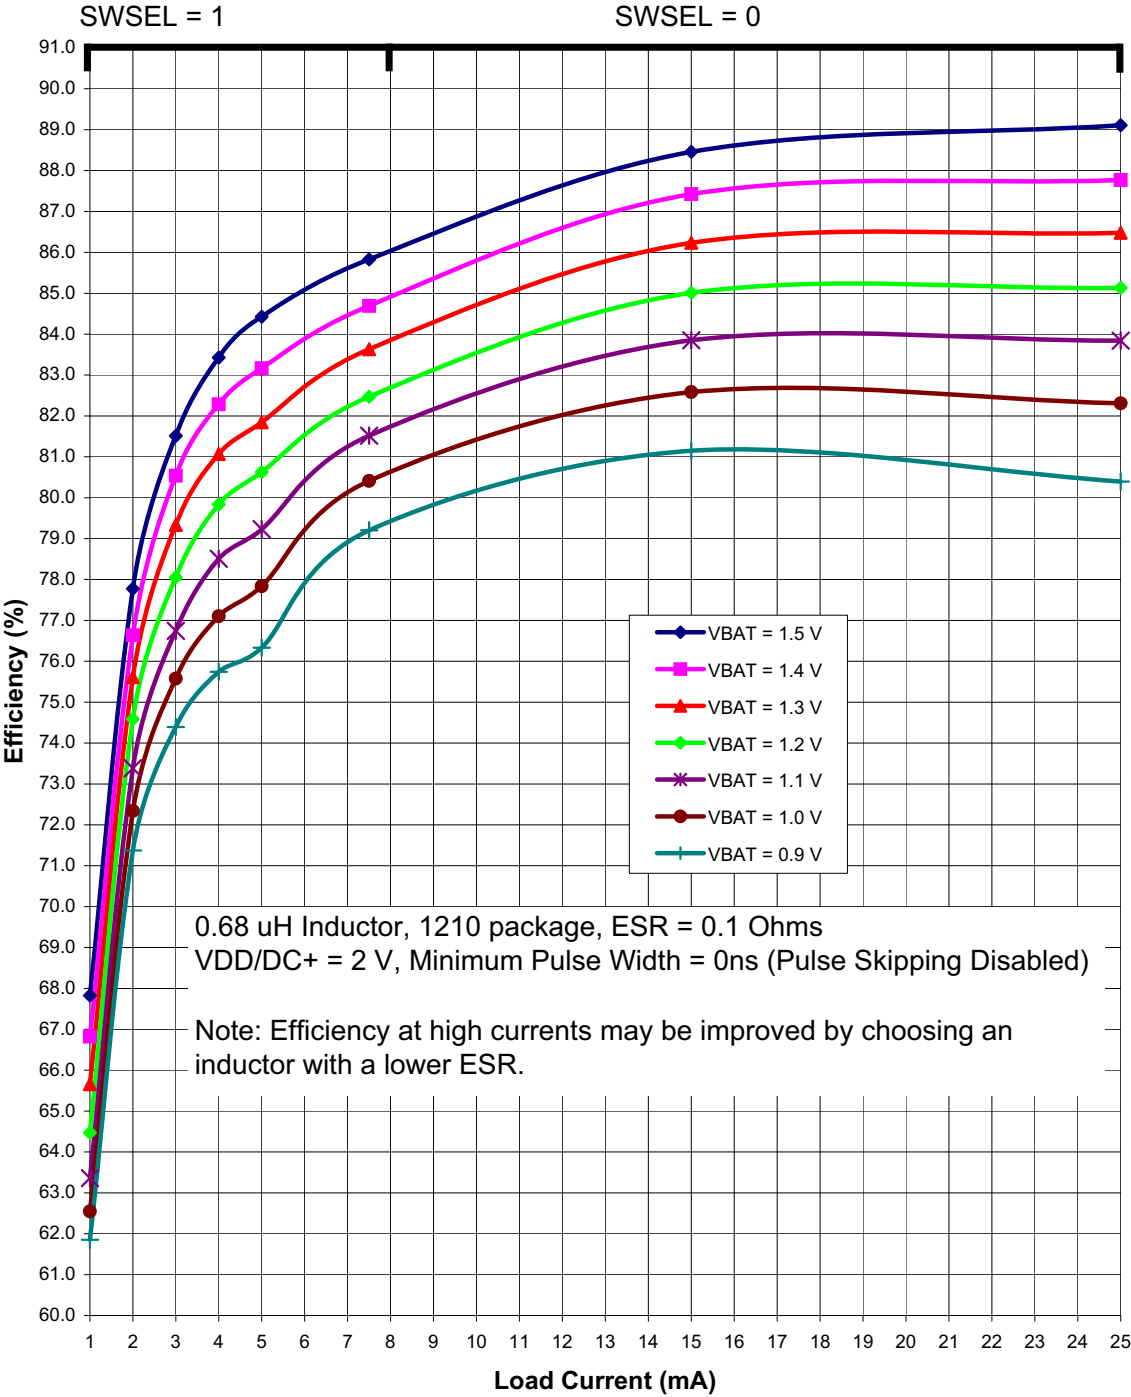
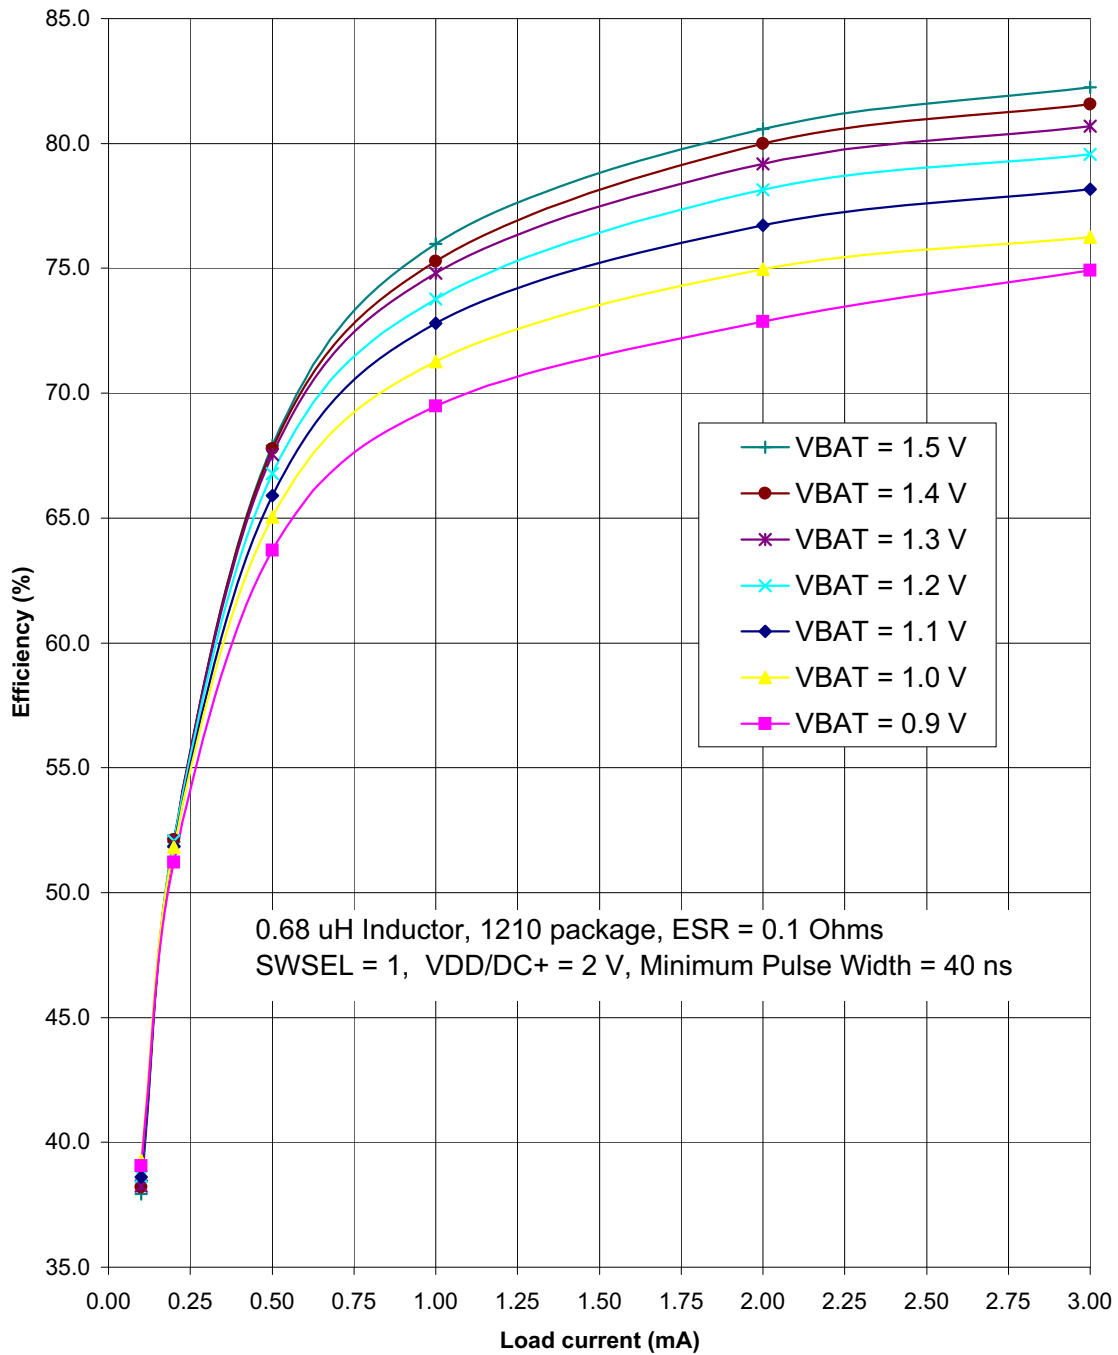

Figure 4.3. Typical DC-DC Converter Efficiency (High Current, VDD/DC+ = 2 V
Figure 4.5. Typical DC-DC Converter Efficiency (Low Current, VDD/DC+ = 2 V)
<p>Notes:</p> <ol style="list-style-type: none"> Based on device characterization data; Not production tested. SYSCLK must be at least 32 kHz to enable debugging. Digital Supply Current depends upon the particular code being executed. The values in this table are obtained with the CPU executing an "sjmp \$" loop, which is the compiled form of a while(1) loop in C. One iteration requires 3 CPU clock cycles, and the flash memory is read on each cycle. The supply current will vary slightly based on the physical location of the sjmp instruction and the number of flash address lines that toggle as a result. In the worst case, current can increase by up to 30% if the sjmp loop straddles a 128-byte flash address boundary (e.g., 0x007F to 0x0080). Real-world code with larger loops and longer linear sequences will have few transitions across the 128-byte address boundaries. Includes oscillator and regulator supply current. IDD can be estimated for frequencies ≤ 10 MHz by simply multiplying the frequency of interest by the frequency sensitivity number for that range, then adding an offset of 90 μA. When using these numbers to estimate I_{DD} for >10 MHz, the estimate should be the current at 25 MHz minus the difference in current indicated by the frequency sensitivity number. For example: $V_{DD} = 3.0$ V; $F = 20$ MHz, $I_{DD} = 4.1$ mA – $(25 \text{ MHz} - 20 \text{ MHz}) \times 0.120 \text{ mA/MHz} = 3.5$ mA. The Supply Voltage is the voltage at the VDD_MCU pin, typically 1.8 to 3.6 V (default = 1.9 V). Idle IDD can be estimated by taking the current at 25 MHz minus the difference in current indicated by the frequency sensitivity number. For example: $V_{DD} = 3.0$ V; $F = 5$ MHz, Idle $I_{DD} = 2.5$ mA – $(25 \text{ MHz} - 5 \text{ MHz}) \times 0.095 \text{ mA/MHz} = 0.6$ mA. The supply current specifications in Table 4.2 are for two cell mode. The VBAT current in one-cell mode can be estimated using the following equation: $\text{VBAT Current (one-cell mode)} = \frac{\text{Supply Voltage} \times \text{Supply Current (two-cell mode)}}{\text{DC-DC Converter Efficiency} \times \text{VBAT Voltage}}$ <p>The VBAT Voltage is the voltage at the VBAT pin, typically 0.9 to 1.8 V. The Supply Current (two-cell mode) is the data sheet specification for supply current. The Supply Voltage is the voltage at the VDD/DC+ pin, typically 1.8 to 3.3 V (default = 1.9 V). The DC-DC Converter Efficiency can be estimated using Figure 4.3–Figure 4.5.</p> The radio peripheral is placed in Shutdown mode.